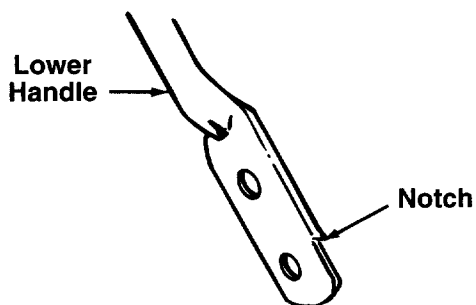

FIGURE 12.
4. Turn the lower handle around so the notches on the bottom of the lower handle are facing forward as shown in figure 12. Reassemble, placing the bottom holes in the handle over the weld pins in the handle mounting bracket.